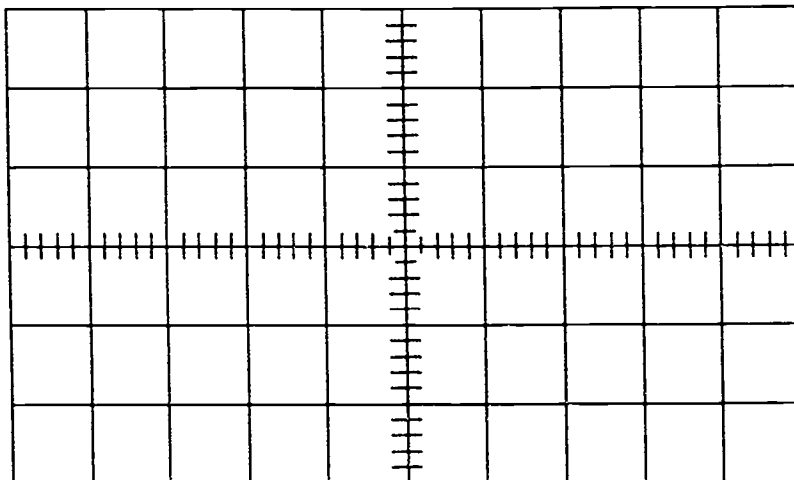

Figure M-11-1
2. The time for the light to travel from one photodetector to the other is measured by examining the phase lag of the sine waves shown on the oscilloscope. Sketch what you see on the oscilloscope (see Figure M-11-1, "Oscilloscope Grid A").